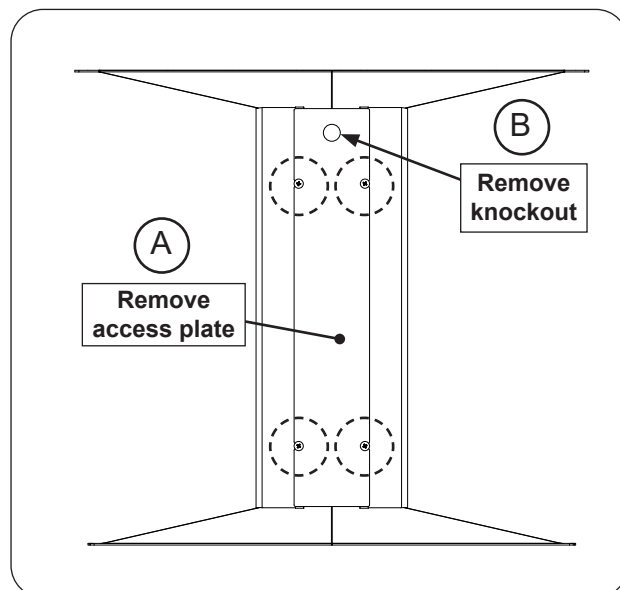

Fig. 27-1 Remove access plate and knock-out
2. Locate the rear access plate on the post base assembly and remove it by unscrewing the four Phillips-head screws. See Fig. 27-1, A.
3. Remove the knockout from the upper portion of the access plate. See Fig. 27-1, B.